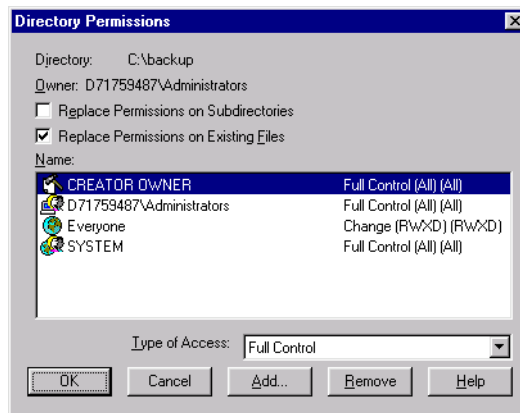

Figure B-7: Directory Permissions Dialog Box
- Click the Permissions button to open the Permissions dialog box (Figure B-7). The display varies depending on whether a directory or file was selected in step 2.